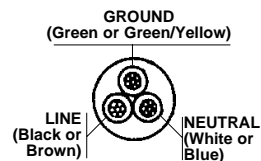

Fig. 1
- If polarization is required, select proper end of cord as shown in Fig. 1.